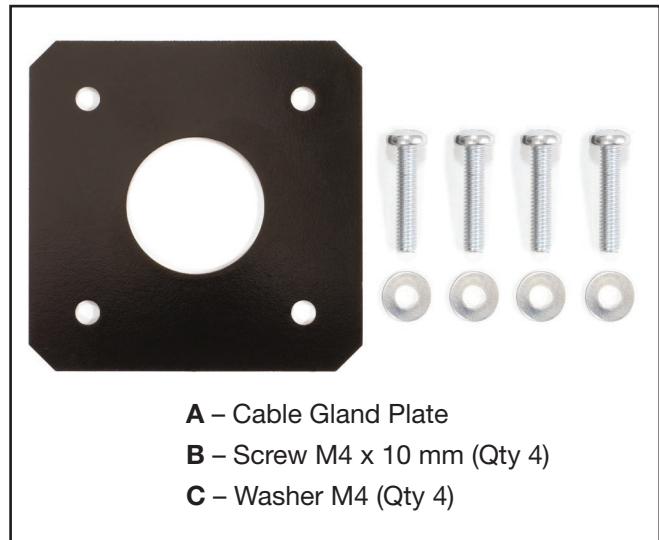

Figure S2 – Cable Gland Plate Kit Components
1. Check the cable gland plate kit supplied with the generator and verify its components against those shown in Figure S2.